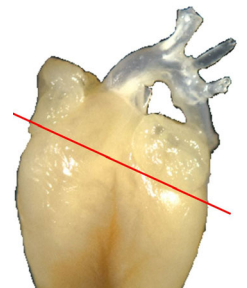

Fig 1. Approximate line to cut ventricle
3. Cut away approximately 60 - 70% of the ventricles (the red line shown in the **Fig 1**).